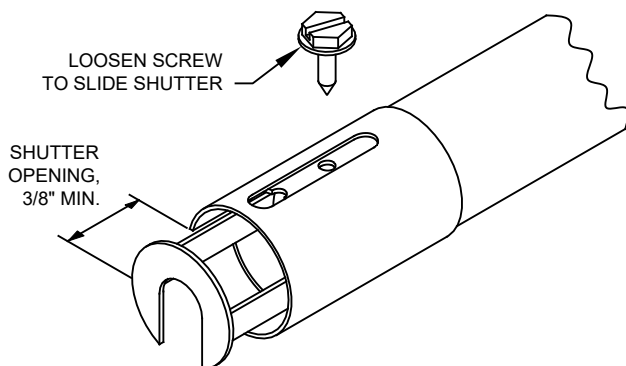

Figure 7.5: Air Shutters
4. Air shutters are factory installed on burners of LP gas models. Shutters may be adjusted where needed to reduce noise and/or flame lifting and fine tune ignition. Verify shutters are open a minimum of 3/8" (see Figure 7.5). Do not close shutters to the point where flames turn yellow. Yellow flames indicate incomplete combustion and the formation of carbon monoxide. Yellow flames are not the same as flame yellow tipping, which often occurs due to dust in the air and does not indicate poor combustion. Use care when working around boiler to avoid creating air movements which will cause fluctuations in the flames, making it difficult to determine correct shutter settings.